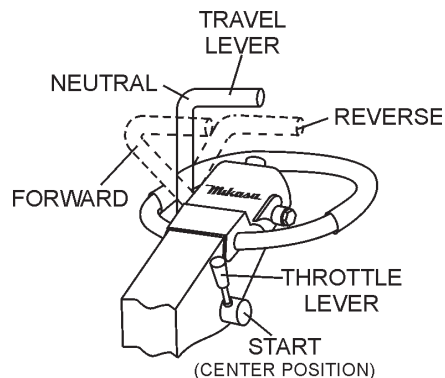

Figure 16. Travel/Throttle Lever (Start Positions)
2. Place the **throttle lever** (Figure 16) in the **START** position (center). Place the **travel lever** in the neutral position (center)
- Move the throttle lever to the **START** position (Figure 16).
1. Return the throttle lever to the **START** position (Figure 16). Allow the machine to cool down for 2 to 3 minutes.